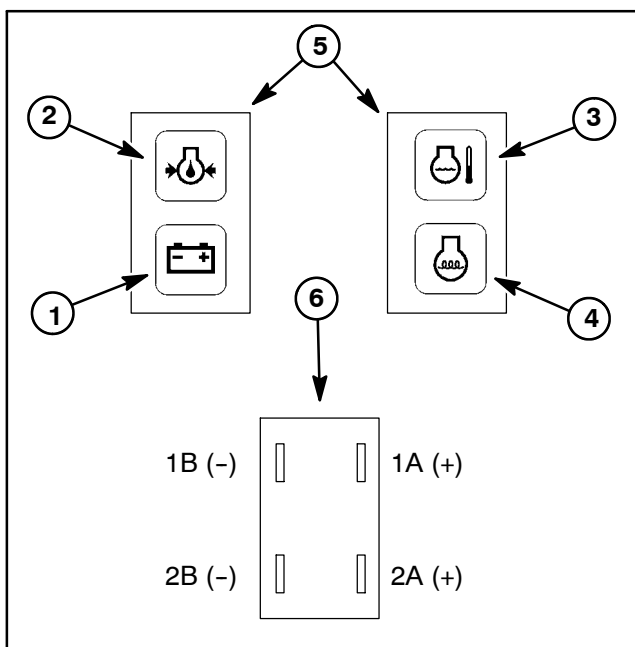

Figure 11
1. Apply 12 VDC to terminals 1A and 2A (Fig. 11).
2. Ground terminals 1B and 2B (Fig. 11).